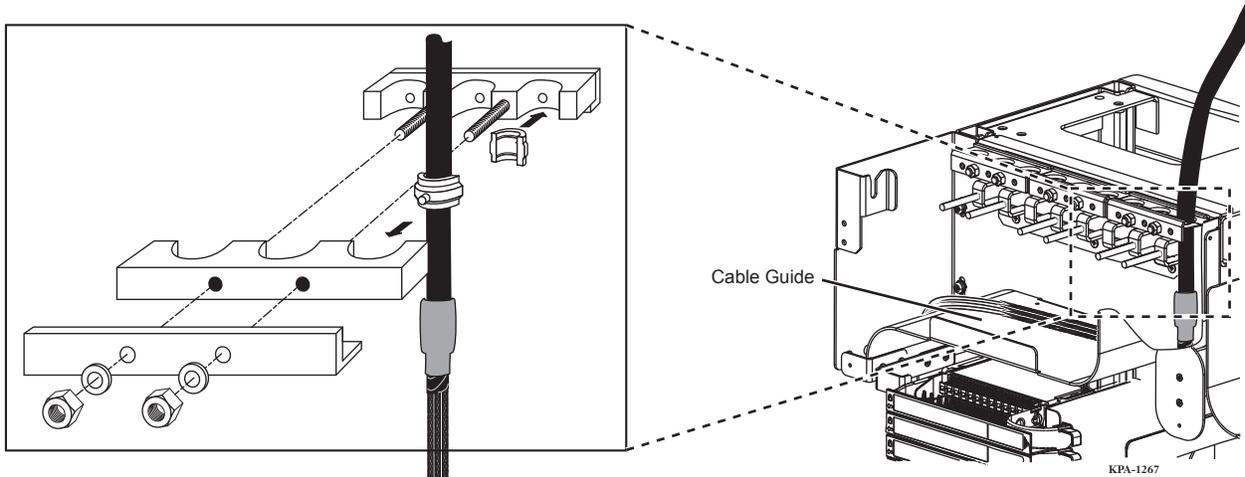

Figure 6
- Step 1:** Strain-relieve the cable (Figure 6).